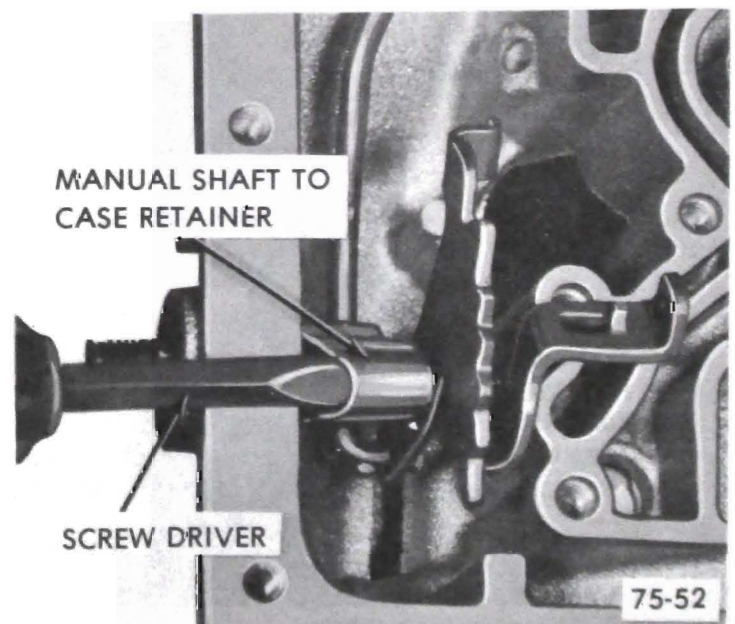

Figure 75-82
2. Remove manual shaft to case retainer with screwdriver. See Figure 75-82.